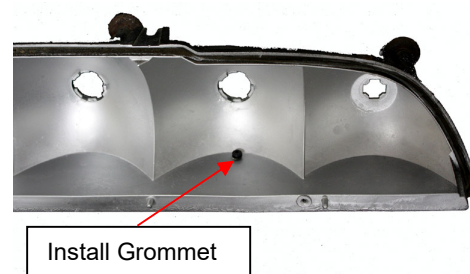

Figure 4
- 2.3. OPTIONAL: If sequential patterns are desired, drill 1 - 3/16" hole 1/2" to the outboard side of the mounting hole in the outboard light chamber. (See Figure 4) The exact location of the hole is not critical. Then install provided rubber grommet into the drilled hole. One method to simplify installation is to pinch grommet, insert protruding edge into the hole, then use a small flat blade screwdriver to push/work the remaining edge through the hole.